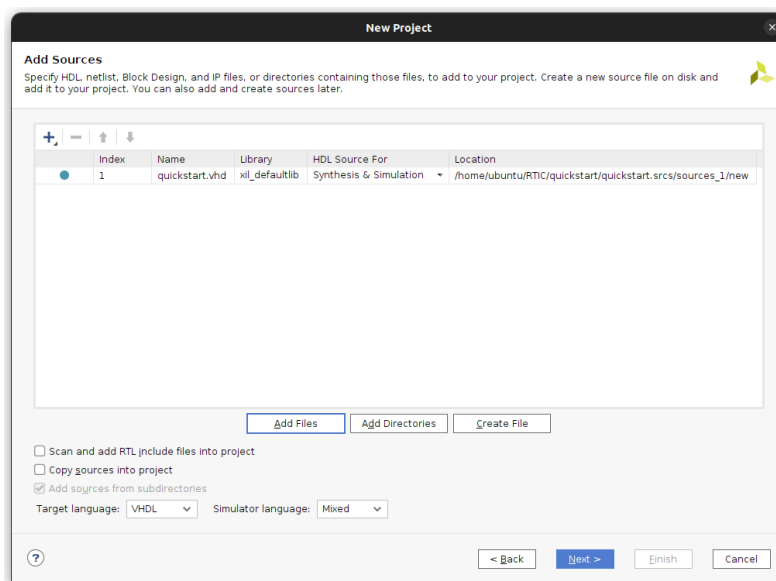

Figure 3: Adding a source file to the project
5. Add the `quickstart.vhd` file to the project (figure 3)